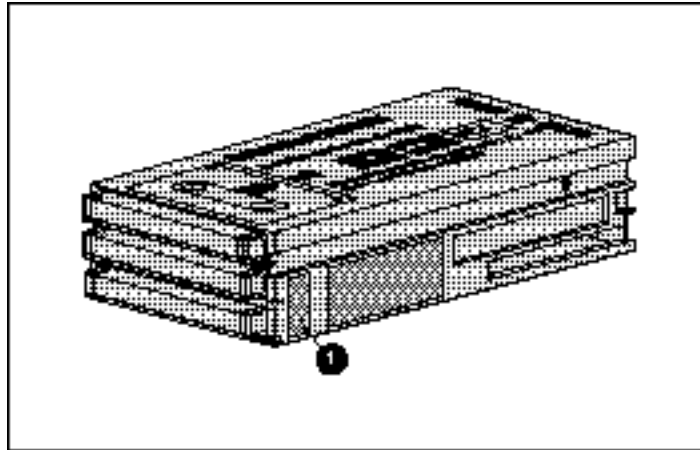

Figure 4-1. Magazine identification
Each cassette and the magazine should be labeled prior to use. To label a cassette follow the manufacturer's instruction included with each cassette. To label the magazine, place the label on ❶ space provided (see Figure 4-1).